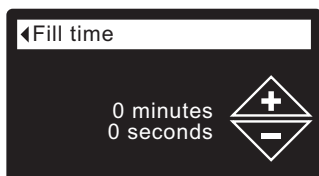

FIG. 78
- 8a. Fill time:** Press the UP (▲) or DOWN (▼) buttons to change the fill time. Hold the button down to rapidly advance. The fill time can be set from 0:00 to 99:59 minutes (See Figure 78).